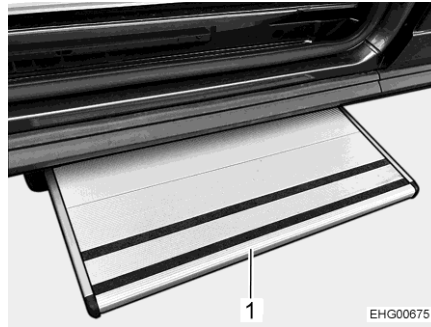

Fig. 5 Entrance step
- Carefully and slowly push in the entrance step (Fig. 5,1) by hand.